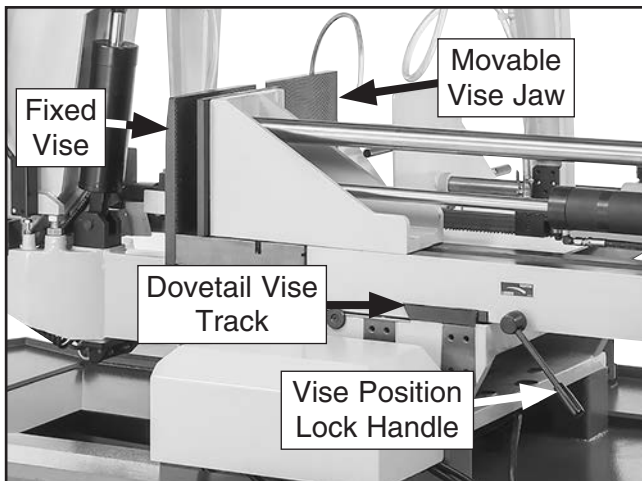

Figure 49. Location of vise components.
2. Loosen vise position lock handle by turning handle counterclockwise (see **Figure 49**).
3. Push or pull movable vise on vise track until it is close to blade but will not intersect blade path (see **Figure 49**).